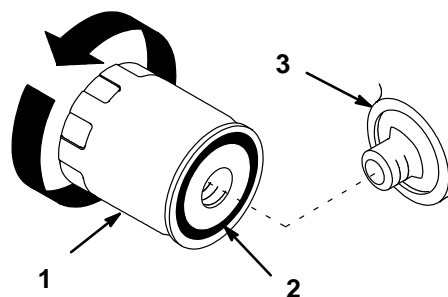

Figure 26
2. Remove the old filter and wipe the filter adapter (Fig. 26) gasket surface.
4. Apply a thin coat of new oil to the rubber gasket on the replacement filter (Fig. 26).
5. Install the replacement oil filter to the filter adapter. Turn the oil filter clockwise until the rubber gasket contacts the filter adapter, then tighten the filter an additional 1/2 turn (Fig. 26).